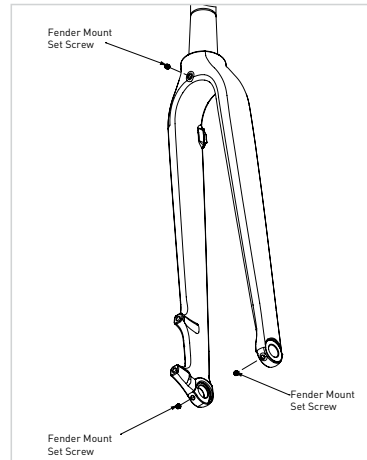

Figure 1
1. Remove set screws from fender mounting holes (fig. 1).